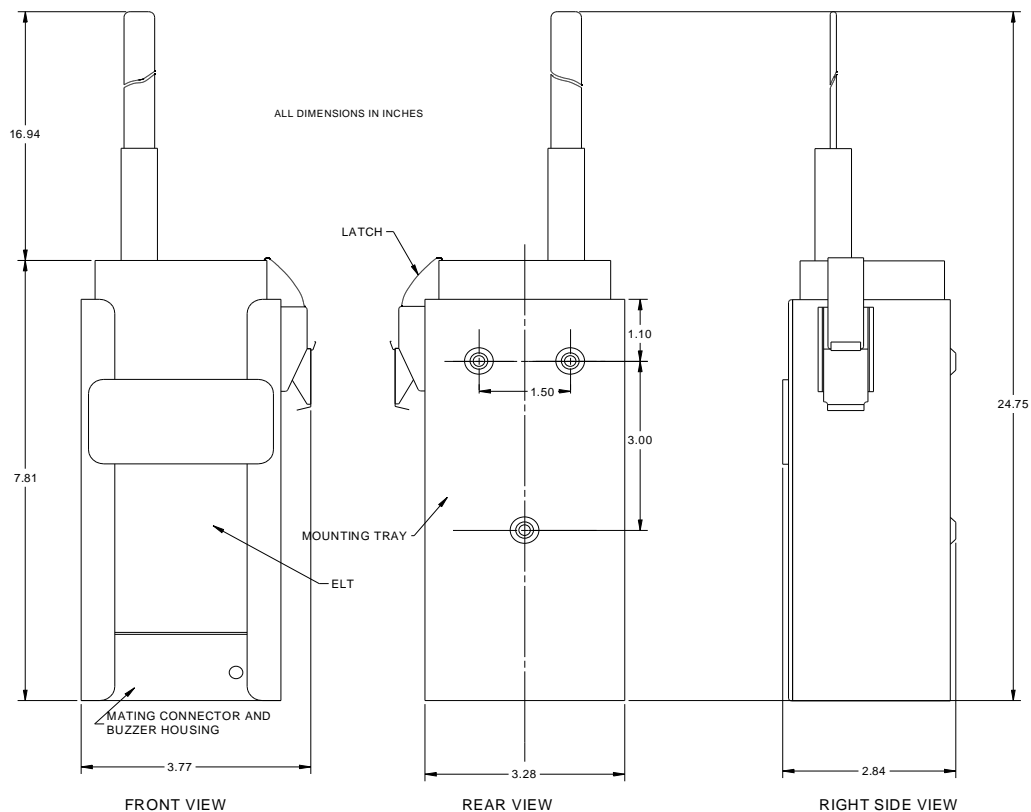
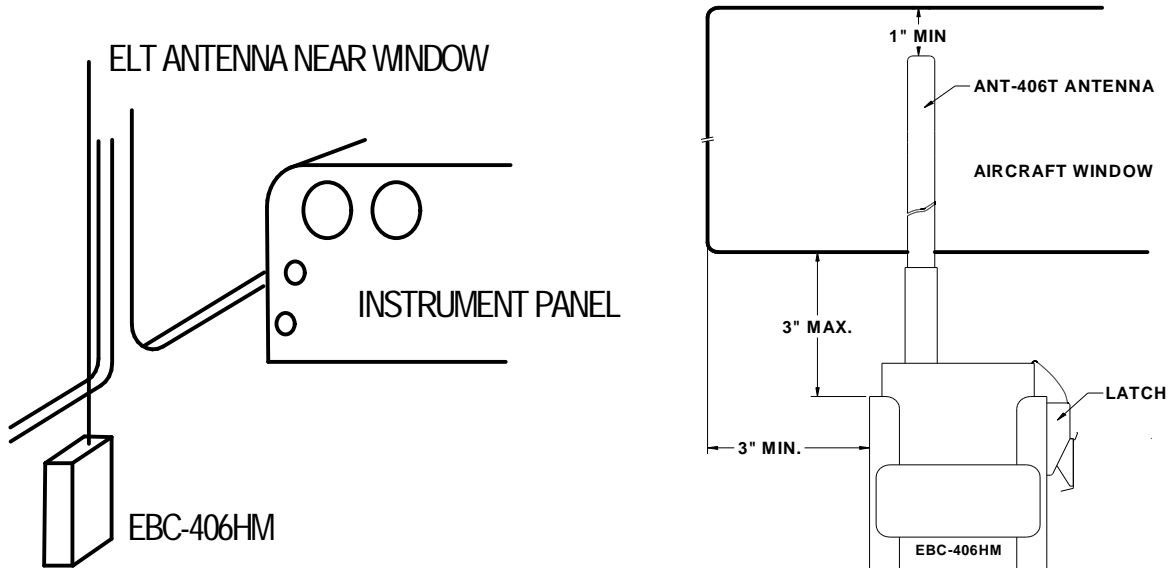

FIGURE 2: EBC-406 ELT OUTLINE WITH HOLE PATTERN
FIGURE 3: EBC-406HM INSTALLATION SUGGESTIONS
- The EBC-406HM mounting bracket must be securely attached as per the above DO-183 requirements. Use the mounting bracket as a template to mark out the holes needed for installation, or refer to Figure 2 for dimensions. After selecting a suitable location, drill and mount the EBC-406HM mounting bracket. Please refer to Figure 3 for an installation suggestions.